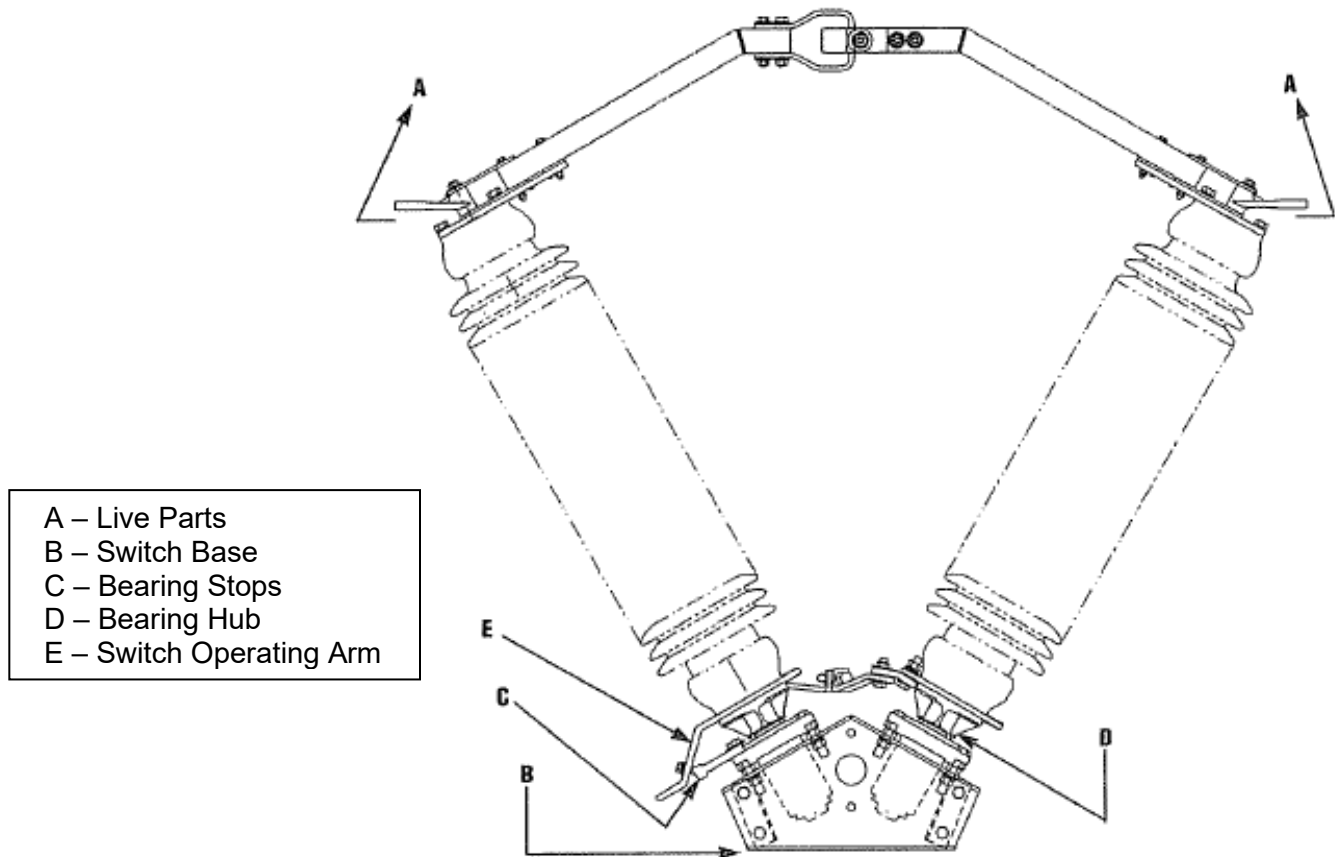

Figure 1: Typical EC-1V Switch Pole Assembled & Common Terminology
6. **Using main sling attachment to the switch base only** and auxiliary sling attachment to keep the switch upright, mount the switches on the structure as shown on the plan view of the operating mechanism drawing. Be sure to orient each pole with the switch operating arm in the proper position. When lifting, positively lock the switch closed. This can be done by using clamps, wire, or straps to keep the switch operating arm ("E" on Figure 1) hard against the bearing stop.